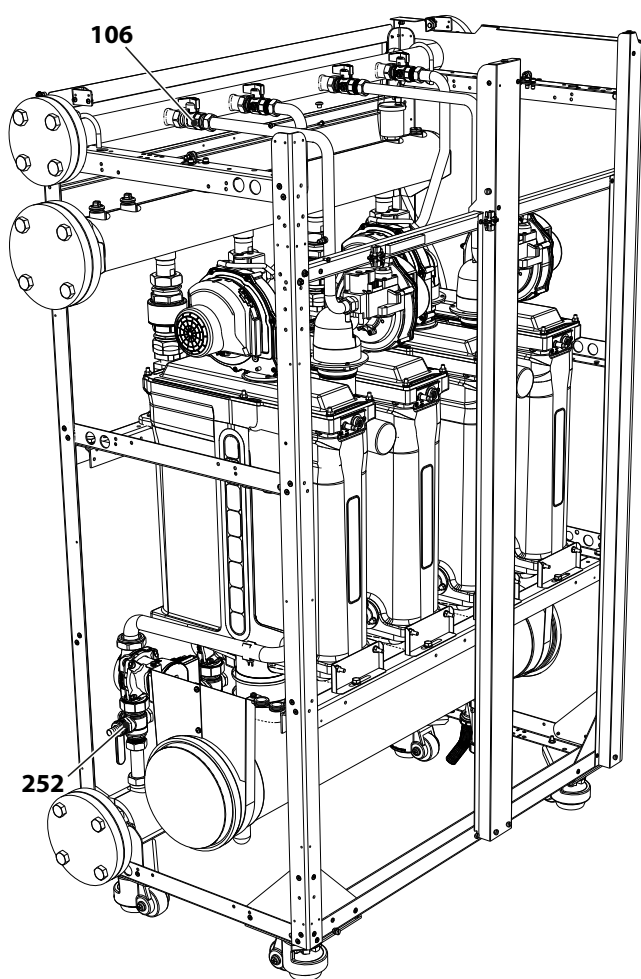

fig. 106
Disconnect the unit from the power supply and close the gas cock (ref. 106 - fig. 106) of the module undergoing maintenance. If necessary, drain the hydraulic circuit by connecting the hose connector pre-installed in the first module, using a suitable rubber hose (not supplied), to a drain or a collection manifold, on the side outlet of the three-way cock (ref. 252 - fig. 106) located on the module return. Close the three-way cock (ref. 252) on the return in order to drain.